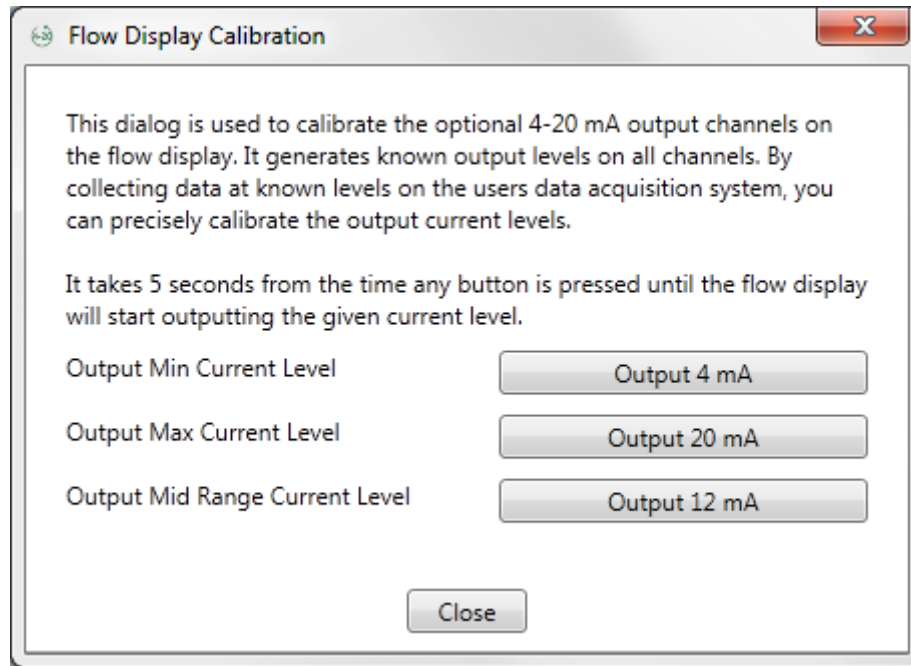

Figure 52. Flow Display Calibration
- Connect the IQ to the flow display and then to a PC. Run the IQ software and select **Advanced Utilities – 4-20 mA Calibration**. Figure 52 shows the display screen.